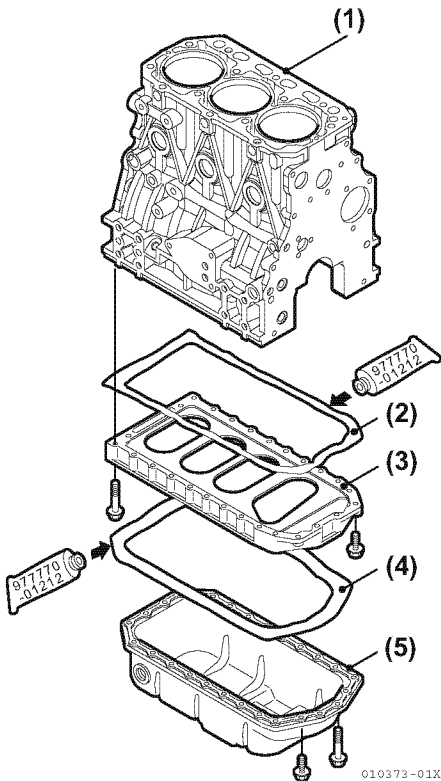

Figure 5-146
- (b) Apply Three Bond 1207F to the three surfaces (**Figure 5-146**).